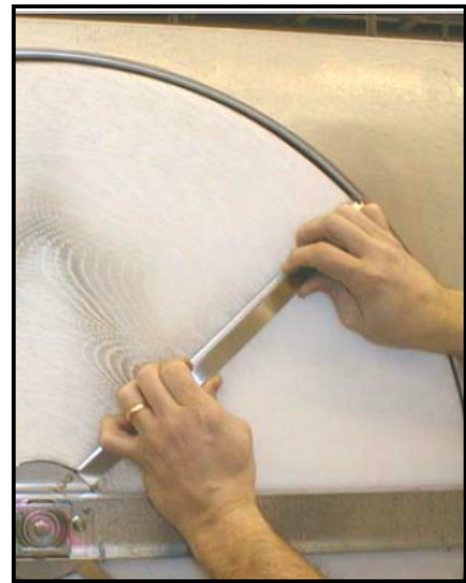

Figure 16 Remove retainer straps.
- 4) From the pulley side, unhook the flexible retaining strap on each side of the segment from the wheel rim and then remove both straps, Figure 16.
- 6) Rotate wheel and remove remaining two retaining straps, Figure 16.
- 3) Install the flexible retaining straps by inserting the ends under the hub plate and then into the slot on the rim at the end of the spoke, Figure 16.